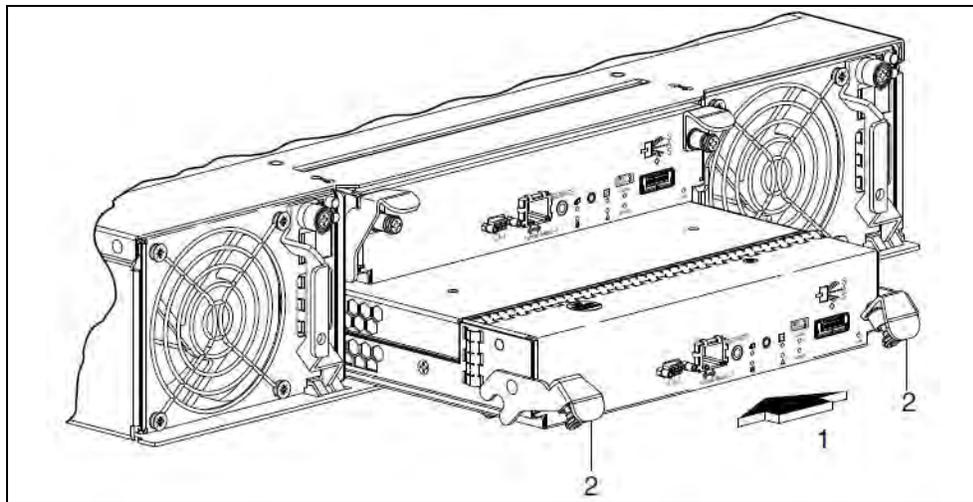

Figure 5.49 - Inserting a Controller Module
1.	Loosen the thumbscrews and press the latches downward (Figure 5.49).
2. Slide the controller module into the enclosure as far as it will go. See (1) in **Figure 5.49**.
3. Press the latches upward to engage the controller module. See (2) in **Figure 5.49**. Turn the thumbscrews clockwise until finger tight.